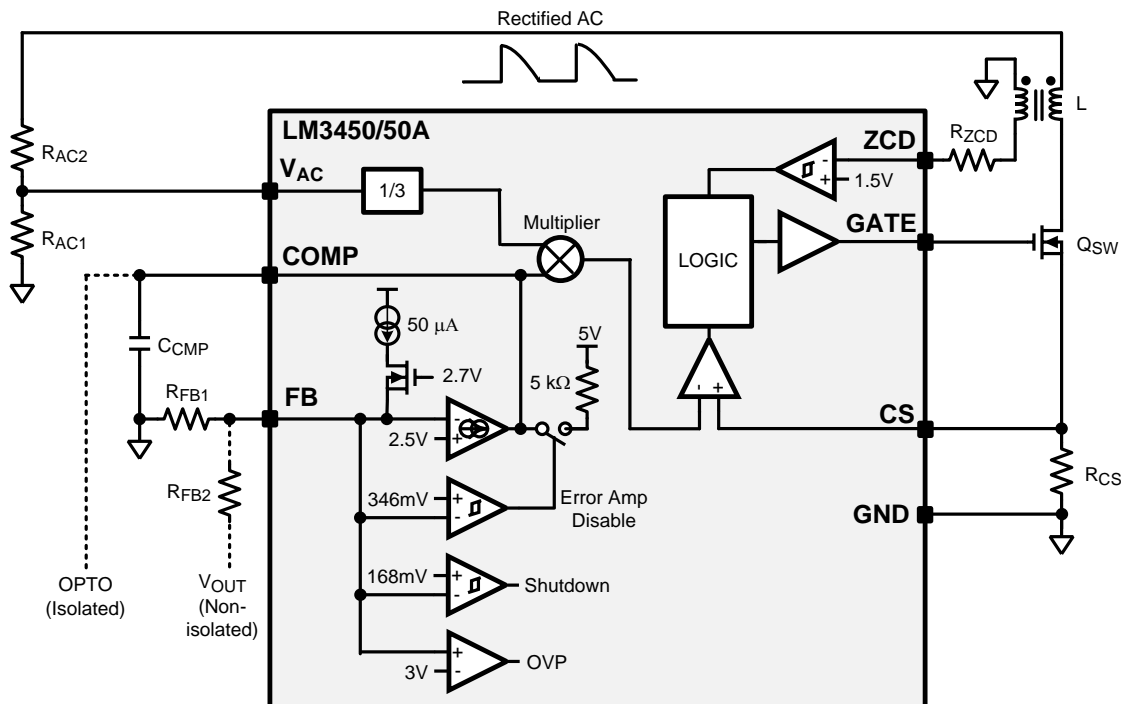
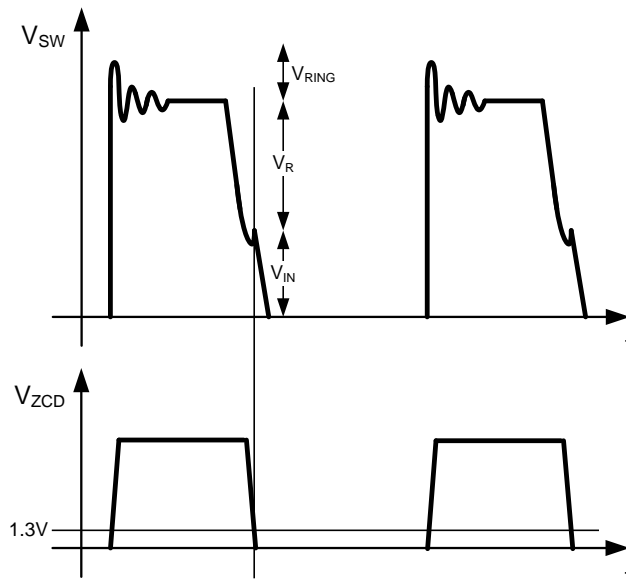

Figure 21. PFC Control Circuit
Figure 22. ZCD Waveforms for Flyback Design
The LM3450/50A uses CRM control to regulate the output voltage and provide power factor correction. In a non-isolated boost topology, an external voltage divider (R_{FB1} , R_{FB2}) is used to sense the output voltage, as shown in Figure 21. The divider is connected to the inverting input (FB) of the internal error amplifier. The LM3450/50A regulates the feedback voltage (V_{FB}) to 2.5V in a closed loop fashion.
For an isolated flyback topology, where the error amplifier is on the secondary, the LM3450/50A internal error amplifier can be bypassed using a single 5.11k Ω resistor (R_{FB1}) from FB to GND. This engages an internal 5k Ω pull-up resistor at COMP. COMP can then be connected directly to the optical isolation as shown in Figure 21.
ZCD is implemented with a 100kΩ resistor from the ZCD pin to a coupled winding on the transformer or inductor as shown in Figure 21. This winding is also used to bootstrap V_{CC} after start-up. When Q_{SW} turns off, the voltage at the ZCD pin (V_{ZCD}) increases as energy is transferred through the auxiliary winding. The circuit arms when V_{ZCD} exceeds 1.5V. Then, when the energy is fully transferred, V_{ZCD} decreases towards zero. When V_{ZCD} falls below 1.3V, the transformer is assumed to be demagnetized, the circuit disarms, and Q_{SW} is turned back on as shown in Figure 22. The ZCD pin voltage will remain low until Q_{SW} is turned off via peak detection and the cycle repeats.
The LM3450/50A internal error amplifier is used for non-isolated designs (boost) where the output voltage can be directly sensed, via a resistor divider, at the FB pin. The FB pin is the inverting input of the trans-conductance amplifier which is regulated to 2.5V. The COMP pin is the output of the amplifier and external compensation is placed from COMP to GND in the form of a single capacitor (C_{COMP}) as shown in Figure 21, a series resistor and capacitor, or both. The output of the amplifier sources or sinks current as necessary to force the inputs of the amplifier to be equal. The compensation method depends upon the transient performance desired and requires a loop gain analysis. This analysis can be somewhat complex and cumbersome. A detailed analysis can be found Application Notes AN-2098 (literature number SNVA463) and/or AN-2150 (literature number SNVA485).